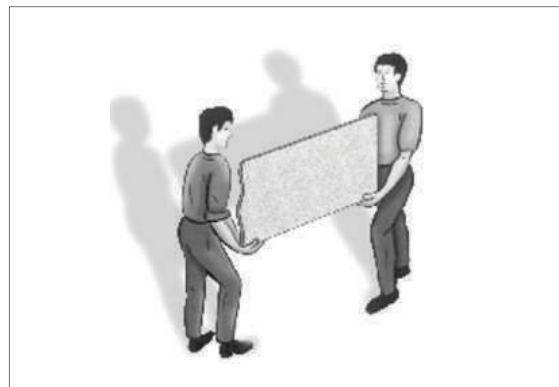

Fig. 2
- Never attempt to carry sheets of HIMACS on your own. The sheet should be lifted by two people, one at either end. Always lift in a vertical position (Fig. 2).